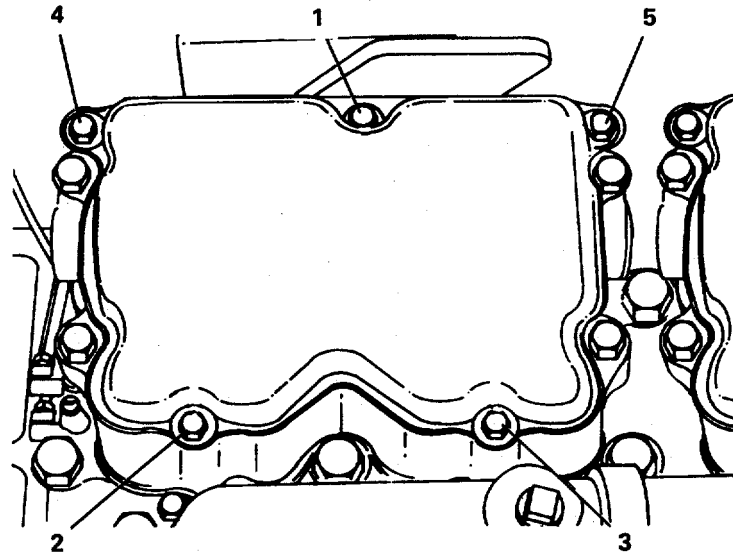

FIGURE 3-30. *Rocker Arm Cover Torque Sequence.*
- s. Tighten the assembled washerscrews in each cover in the sequence shown to 15 ft-lb. (20.3 N•m) torque (FIGURE 3-30).